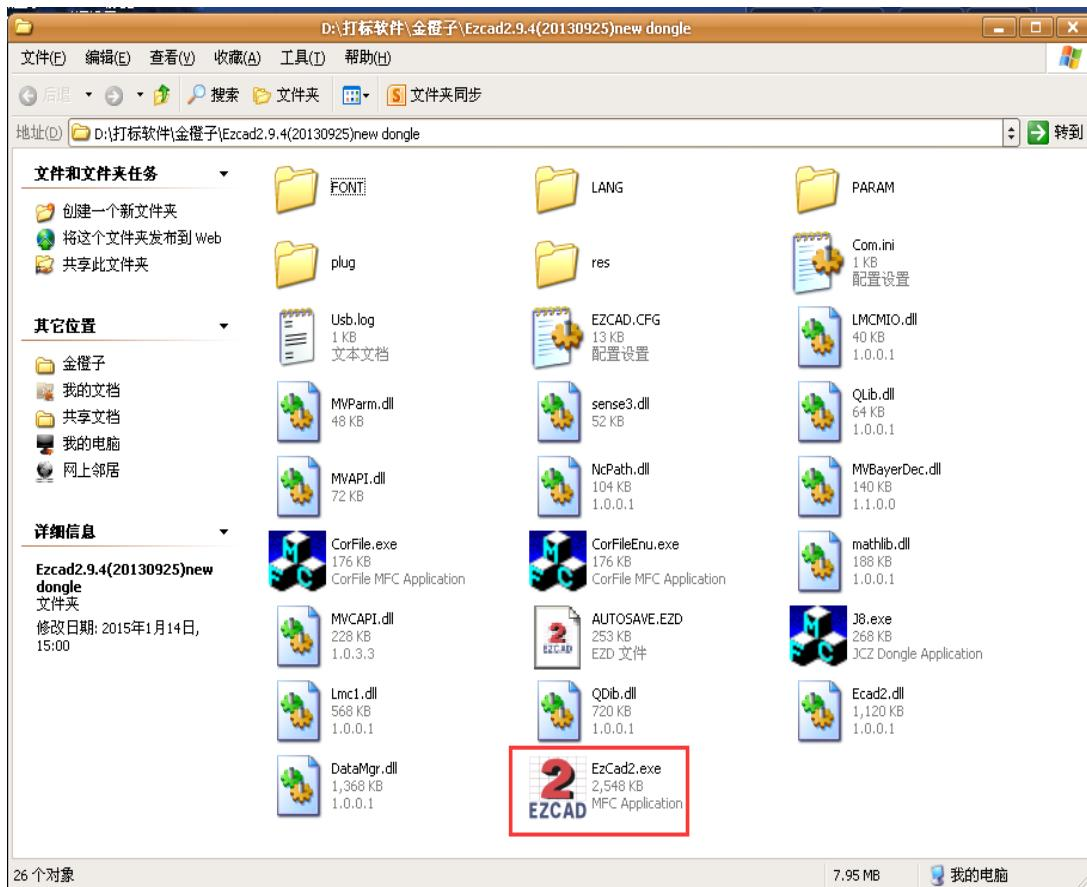

Figure 1
(2) After successful installation, click the JCZ marking software icon EzCad2, as shown in Figure 1: